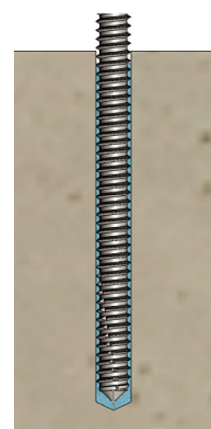

Figure 5.1C
4) Insert chemical Anchor Stud/rebar to bottom of hole while turning as shown in Figure 5.1C.
5) Wait until adhesive has fully cured before loading as shown in Figure 5.1C.